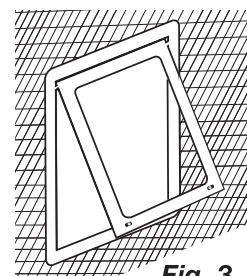

Fig. 3
Step 8 – Trim any excess screen fragments using a utility knife with a sharp (new) blade to allow inside flap assembly to swing freely (see Fig. 3).